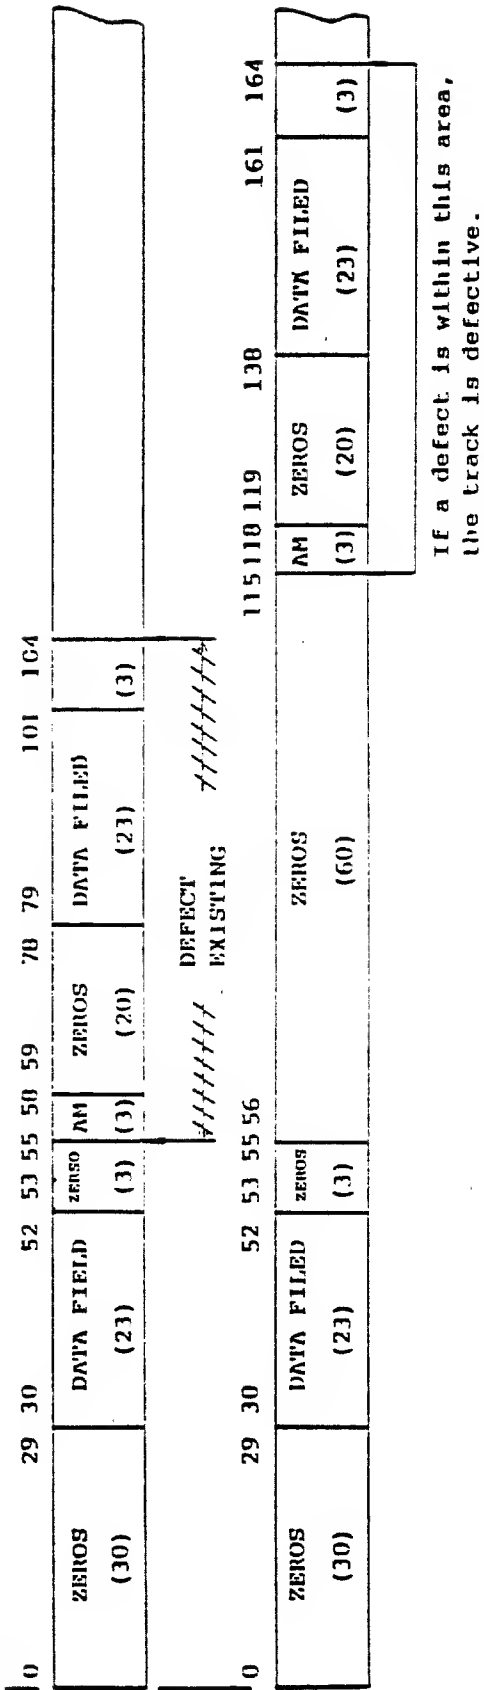

Figure 2-9 Skip Displaced Format-B
3. If the beginning of a defect is between 56 and 106 bytes after Index, 60 bytes of zeros are added immediately before the address mark. In this case, if any part of a defect is between bytes 116 and 155, the track is flagged defective. Refer to Figure 2-9 Format-B.